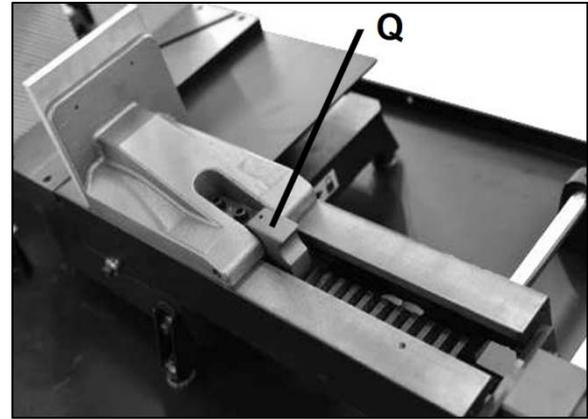

Figure 7-5: Vise pawl and rack
5. Lift and disengage the vise pawl (Q, Fig 7-5). Open the vise by hand.